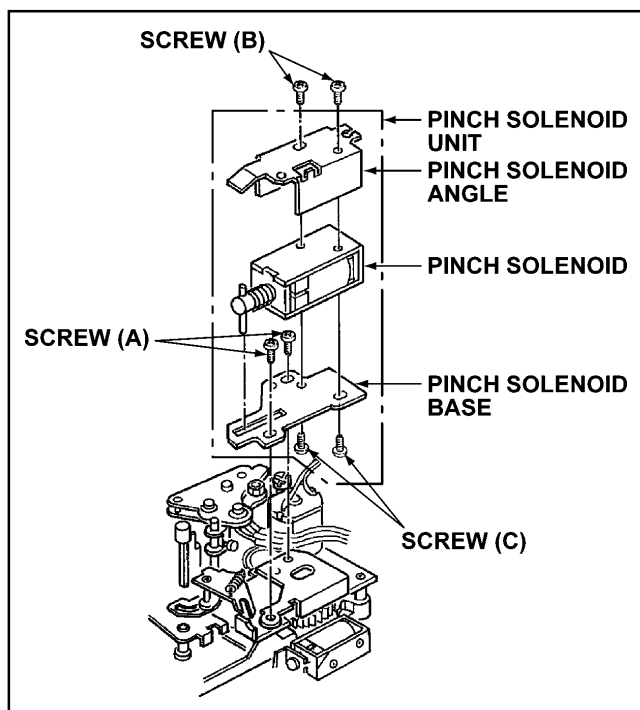

Figure 5-7
3. Unscrew the 2 screws (A) and remove the Pinch Solenoid Unit as shown in Figure 5-7.
4. Unscrew the 2 screws (B) and remove the Pinch Solenoid Angle as shown in Figure 5-7.
5. Unscrew the 2 screws (C) and remove the Pinch Solenoid from the Pinch Solenoid Base.